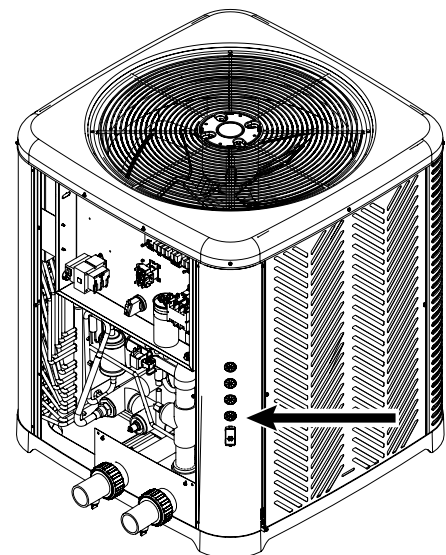

Figure 130. Use the Grommets
5. Use the grommet(s) to run the control and/or power wires from the external device(s) to the heater control box. See **Figure 130**.